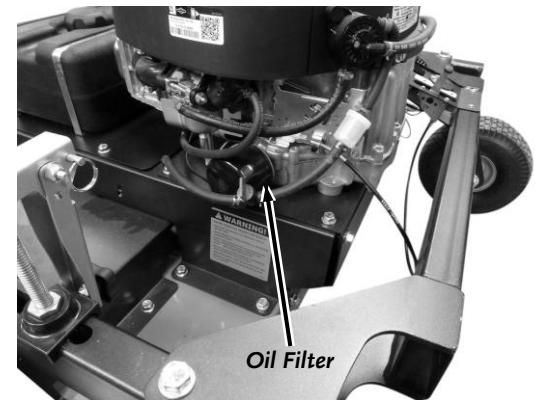

Figure 42
5. The Engine Oil Filter is located on the left side of the Engine (**Figure 42**). Using an Oil Filter Wrench, or grasping the Oil Filter firmly with your hand, unscrew the Oil Filter counterclockwise from the Engine. **BE SURE THAT THE OLD FILTER GASKET COMES OFF WITH THE FILTER.**